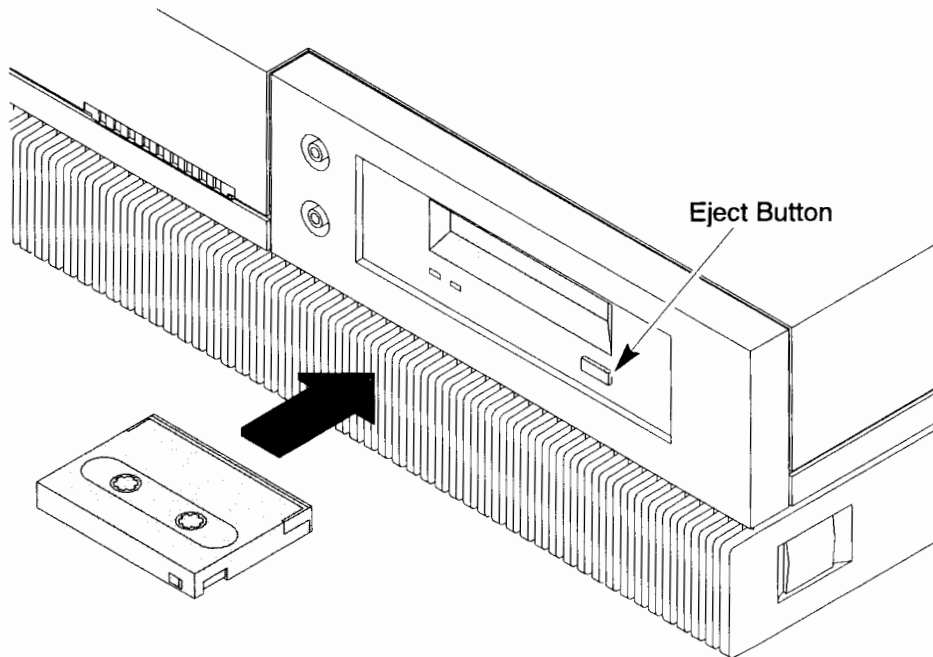

Figure 5-2. Loading and Unloading a Data Cassette
1. Insert the data cassette into the drive, as shown in Figure 5-2.
- 3.** To remove the data cassette, press and release the eject button on the front of the drive, as shown in Figure 5-2. The LEDs on the drive flash on and off. Ten to twenty seconds later, the data cassette slides partway out of the drive. Remove the cassette from the drive.